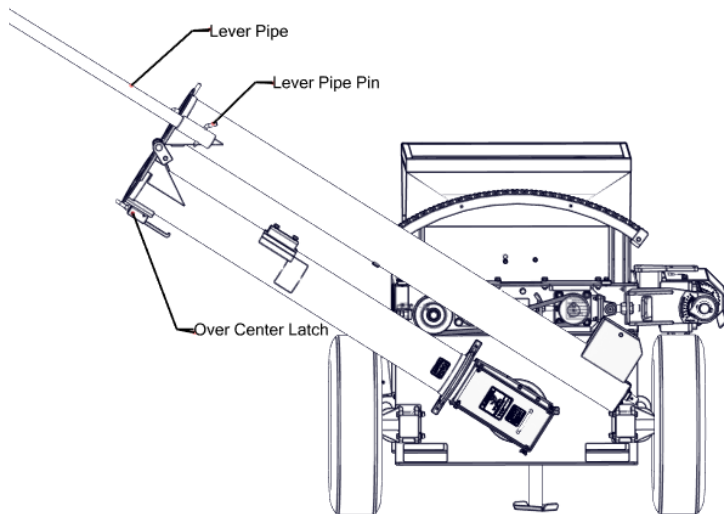

Figure 6.7
- 4) Rotate the discharge auger until it comes to rest on the driver's side tire (Figure 6.7).